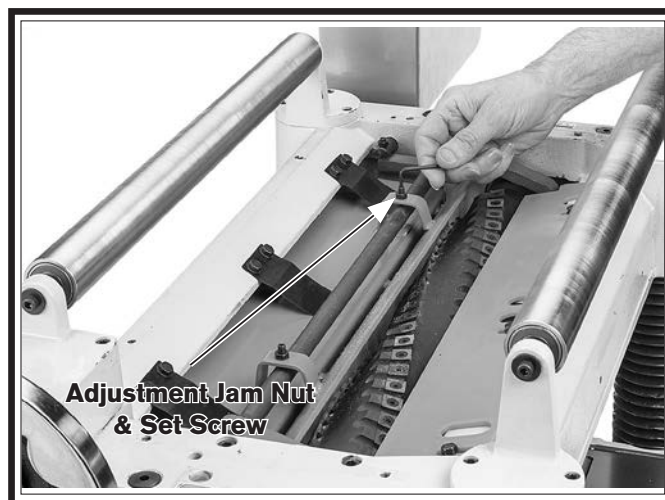

Figure 53. Adjusting chip breaker height.
12. Using same "0" reference on Rotacator dial from **Step 5**, perform similar steps as described previously to adjust height of chip breaker to its recommended specification given at beginning of this subsection. The adjustment controls are shown below (see **Figure 53**).